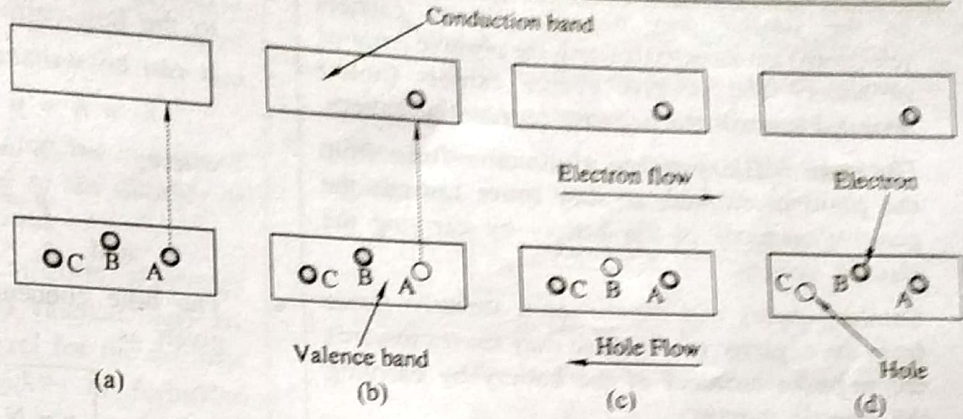

FIG. 2.6 : ELECTRON AND HOLE CURRENT
- Let's take an example, as shown in Fig 2.6. there are three atoms atom A, atom B and atom C.
- At room temperature valence electron in an atom A gains enough energy and jumps in to conduction band as show in Fig. 2.6(a).
- When it jumps in to conduction band a hole (vacancy) is created in the valence band at atom A as shown in Fig. 2.6(b).
- Then the neighboring electron from atom B moves to atom A to fill the hole at atom A. This creates a hole at atom B as shown in Fig. 2.6(c).
- Similarly neighboring electron from atom C moves to atom B to fill the hole at atom B. This creates a hole at atom C as shown in Fig. 2.6(d).